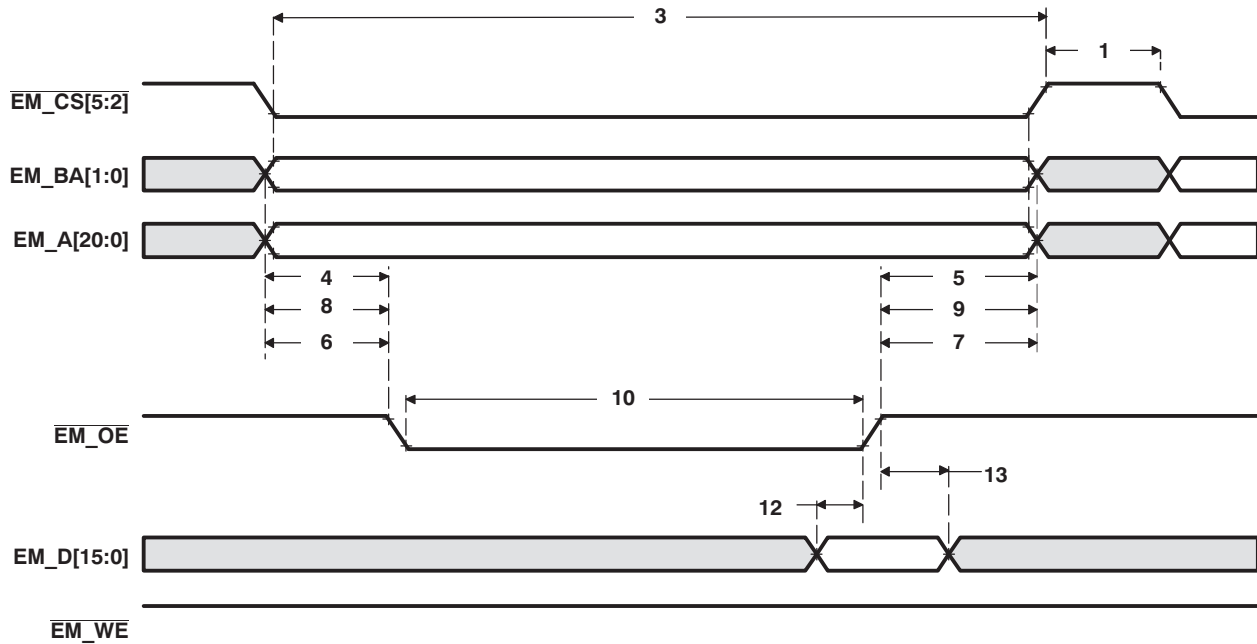
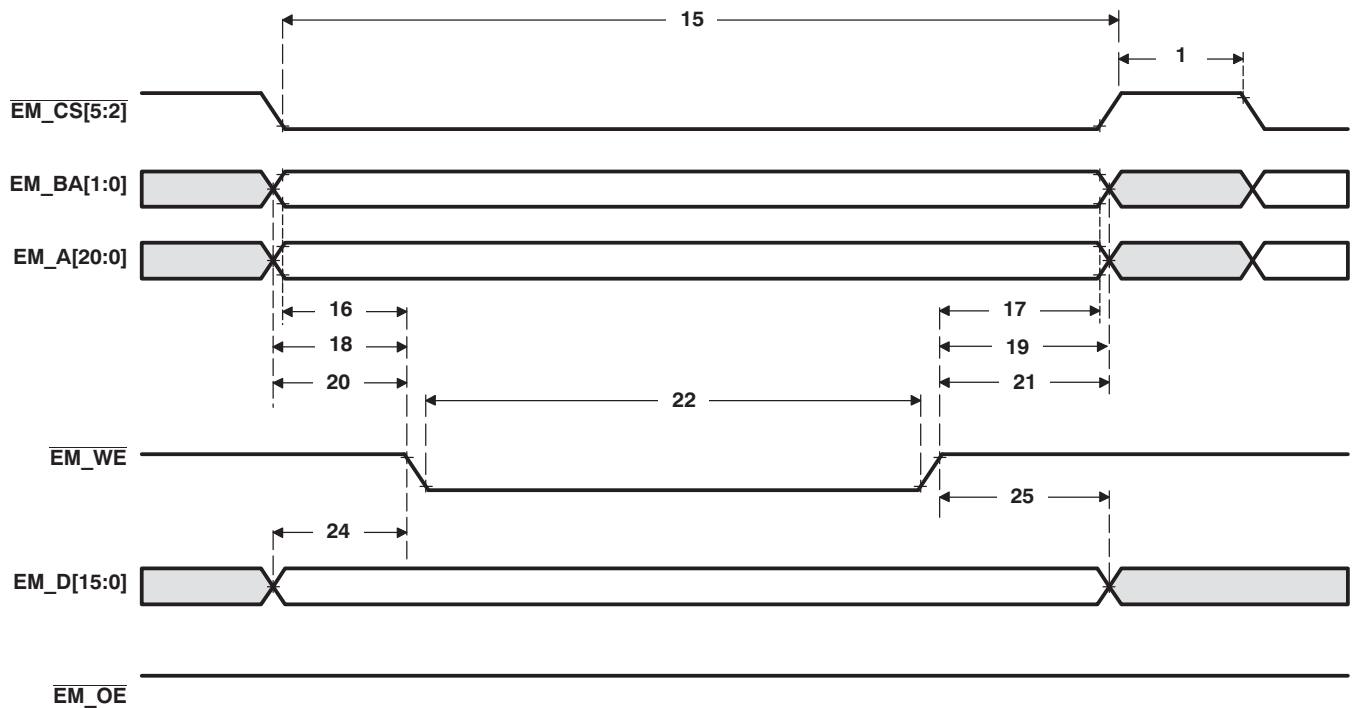
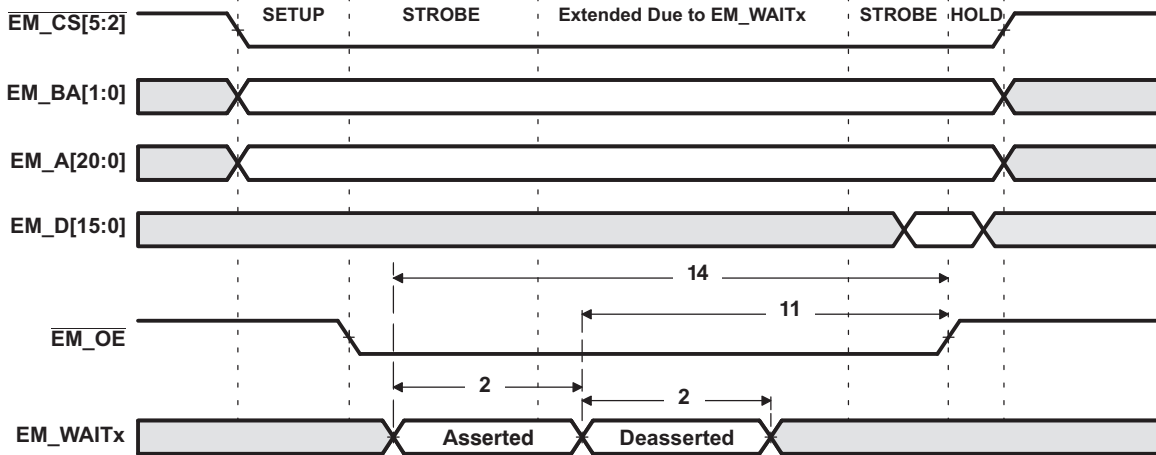
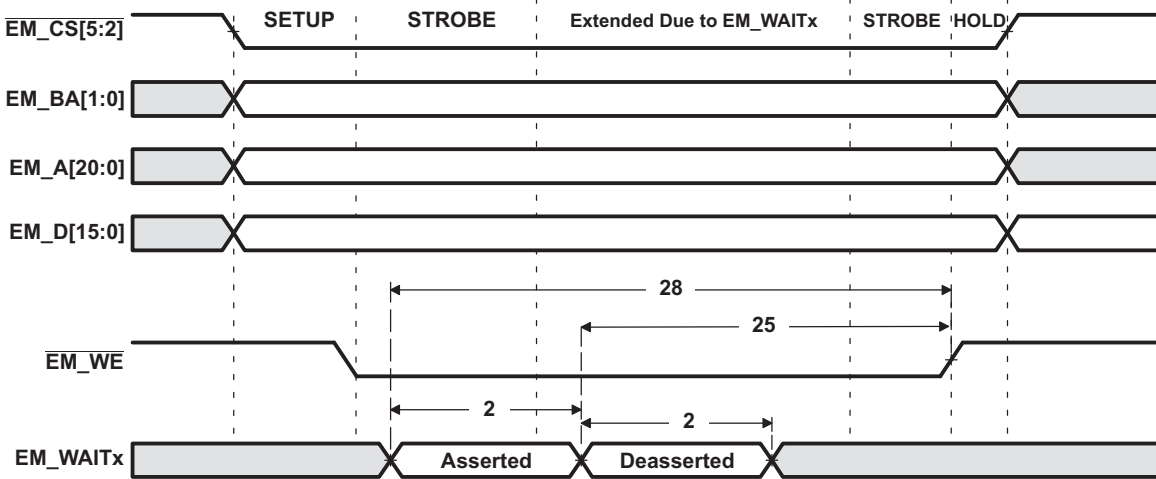

Figure 6-14. Asynchronous Memory Read Timing for EMIF
Figure 6-15. Asynchronous Memory Write Timing for EMIF
Figure 6-16. EM_WAITx Read Timing Requirements
Figure 6-17. EM_WAITx Write Timing Requirements
Table 6-13. Switching Characteristics Over Recommended Operating Conditions for EMIF Asynchronous Memory^{(1) (2)} (see Figure 6-15 and Figure 6-17)⁽³⁾
Table 6-13. Switching Characteristics Over Recommended Operating Conditions for EMIF Asynchronous Memory ⁽¹⁾ ⁽²⁾ (see Figure 6-15 and Figure 6-17) ⁽³⁾ (continued)
Table 6-14. Timing Requirements for EMIF Asynchronous Memory⁽¹⁾ (see Figure 6-14, Figure 6-16, and Figure 6-17)
- (1) E = SYSCLK period in ns, if EMIF is set for "full rate" or E = SYSCLK/2 period in ns, if EMIF is set for "half rate" as defined by bit 14 of the EMIF Status register (0x1001h). For example, when EMIF is set to full rate and SYSCLK is selected and set to 100 MHz, E = 10 ns.
- (2) Setup before end of STROBE phase (if no extended wait states are inserted) by which EM_WAITx must be asserted to add extended wait states. Figure 6-16 and Figure 6-17 describe EMIF transactions that include extended wait states inserted during the STROBE phase. However, cycles inserted as part of this extended wait period should not be counted; the 4E requirement is to the start of where the HOLD phase would begin if there were no extended wait cycles.
Table 6-15. Switching Characteristics Over Recommended Operating Conditions for EMIF Asynchronous Memory^{(1) (2) (3)} (see Figure 6-14, Figure 6-16, and Figure 6-17)
Table 6-15. Switching Characteristics Over Recommended Operating Conditions for EMIF Asynchronous Memory ⁽¹⁾ ⁽²⁾ ⁽³⁾ (see Figure 6-14 , Figure 6-16 , and Figure 6-17) (continued)